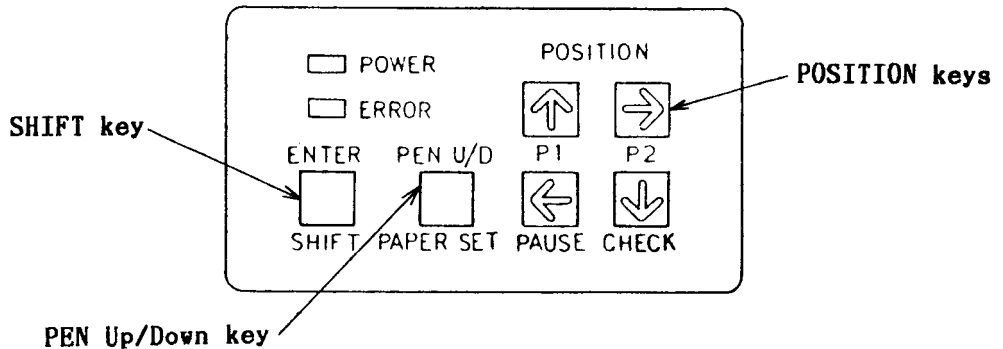

Fig. 4-5 Control Panel
- (1) Manipulate the POSITION keys on the control panel. It is all right if the pen carriage moves in the depressed key direction within the effective drawing area of the paper. The pen carriage never goes outside of the area even if depressing the key. In case two keys are depressed at the same time,  takes precedence concerning the X-axis direction while  takes precedence in the Y-axis direction (Fig. 4-5).